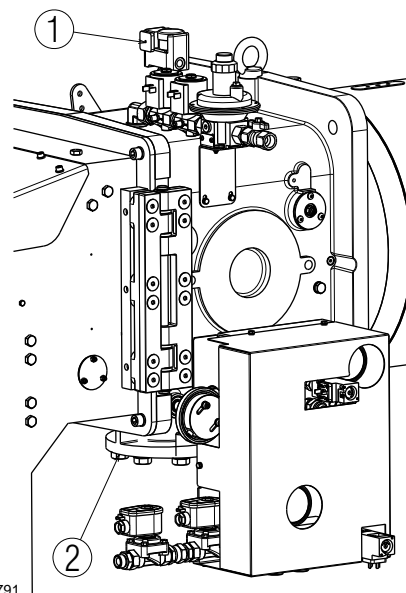

Fig. 25
The gas train is pre-arranged to be connected to the burner at the flange 2)(Fig. 25).
Gas pressure measured at test point 1)(Fig. 25), with:
Pressure loss at gas butterfly valve 2)(Fig. 25) with maximum opening: 90°.
- subtract the pressure in combustion chamber from the gas pressure measured at test point 1) (Fig. 25).
$$\begin{aligned} \text{Gas pressure at test point 1)(Fig. 25)} &= 46.9 \text{ mbar} \\ \text{Pressure in combustion chamber} &= 10 \text{ mbar} \\ 46.9 - 10 &= 36.9 \text{ mbar} \end{aligned}$$
To calculate the required gas pressure at test point 1) (Fig. 25), set the maximum modulating output required from the burner operation:
- read, on the right (column 1), the pressure at the test point 1) (Fig. 25).
pressure required at test point 1)(Fig. 25).